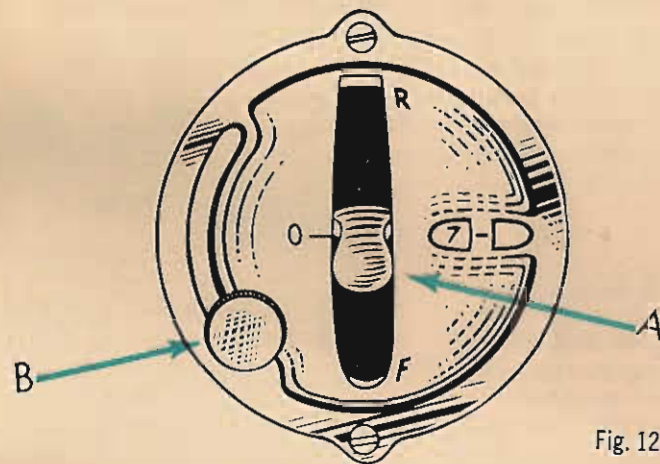

Fig. 12
With the needle raised and the threads drawn back, at least 4 inches through the toes of the presser foot, place the material to be sewn beneath the presser foot, and lower the presser foot lever as far as it will go. Insert needle into material by turning the balance wheel **TOWARD YOU** from top down, by hand. Regulate stitch to desired size (see Fig. 12) and start sewing.
**Never sew in the neutral position (0-Fig. 12).**